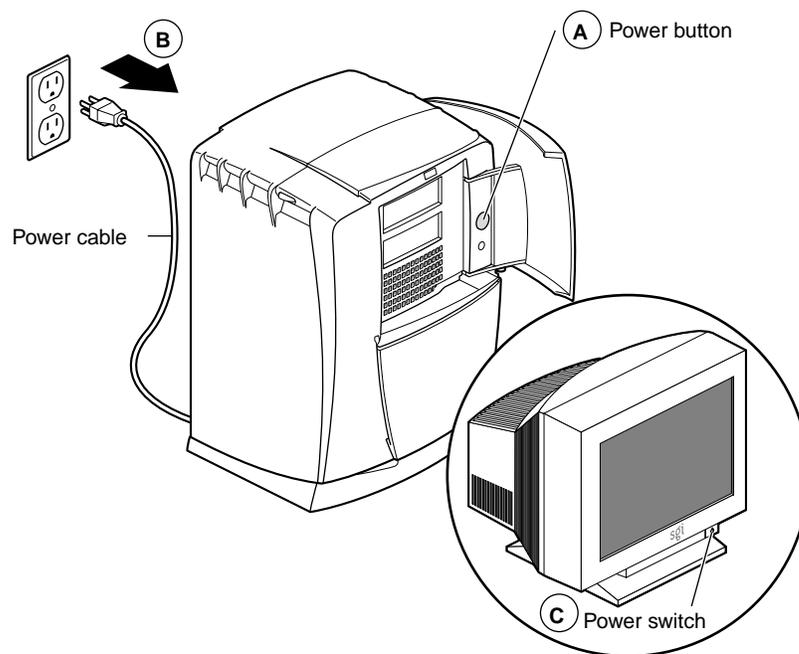

Figure 7-1 Powering Off the Octane2 Workstation and Monitor
1. Open the cover and press the power button (see A in Figure 7-1) to power off your workstation.
2. Unplug the power cable from the electrical outlet and from your workstation (B).
3. Press the monitor power switch (C) to power off your monitor.